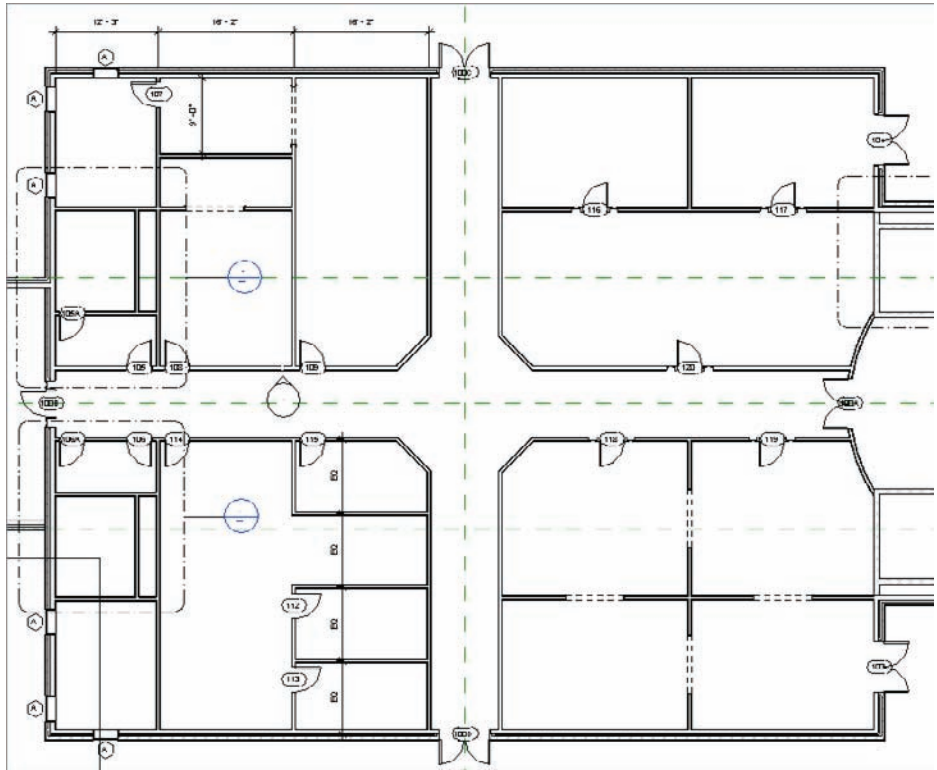

FIGURE 4.52 The first-floor layout for the east wing
2. Start adding walls, doors, openings, and windows to resemble Figure 4.52. These doors and windows can be any type you like. If your model varies slightly from the example in the book, don't be concerned.